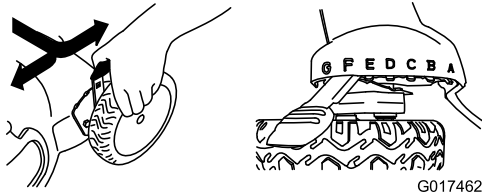

Figure 11
**Note:** To raise the mower, move all 4 cutting height levers forward; to lower the mower, move them all rearward (Figure 11).